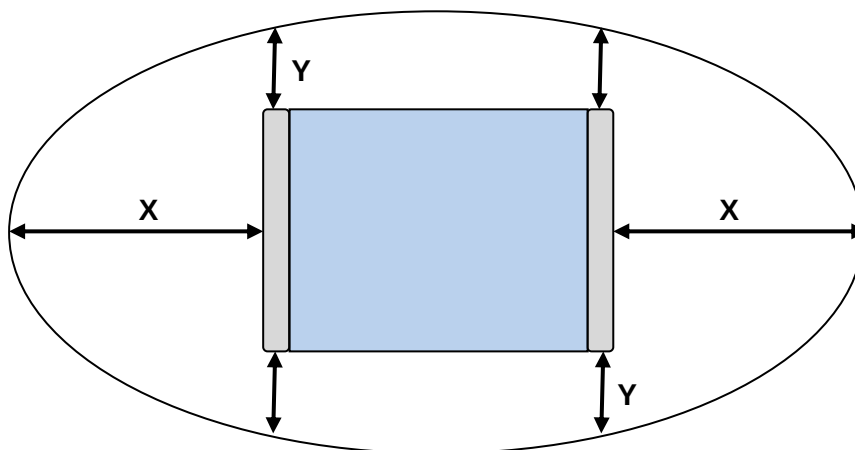

Fig. 11: Top view, capture area outside of the antenna gate
① NOTE:
- **Fig. 11**). This means there are tag orientations in which the tag can be detected outside the reading area.